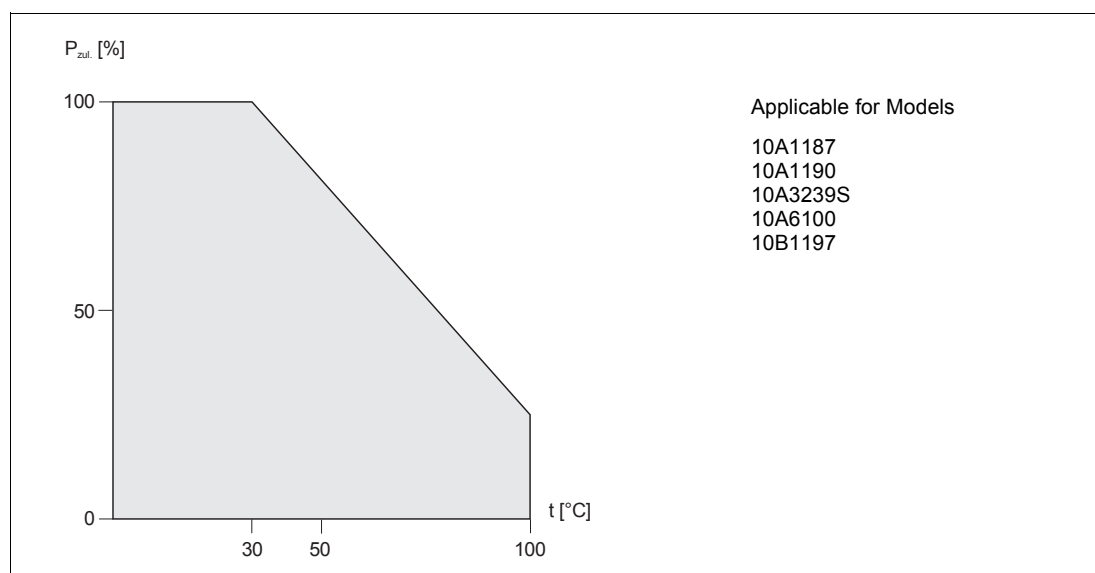

Fig. 13-1: Allowable Operating Pressure as a Function of the Temperature
- For fluid or ambient temperatures above 30 °C the max. allow. operating pressure is reduced by 1.05 %/1 °C (see Fig. 13-1)